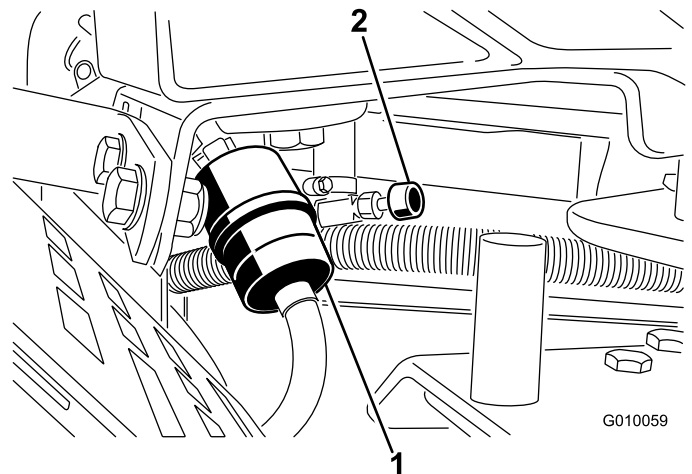

Figure 48
2. Close the fuel-shutoff valve (Figure 48).
3. Squeeze the ends of the hose clamps together and slide them away from the filter (Figure 48).
5. Install a new filter and move the hose clamps close to the filter (Figure 48).
7. Open the fuel-shutoff valve (Figure 48).
3. Loosen the hose clamp at the fuel filter and slide it up the fuel line away from the fuel filter (Figure 48).
4. Pull the fuel line off the fuel filter (Figure 48). Open the fuel-shutoff valve and allow fuel to drain into a fuel can or drain pan.
5. Install the fuel line onto the fuel filter. Slide the hose clamp close to the fuel filter to secure the fuel line (Figure 48).